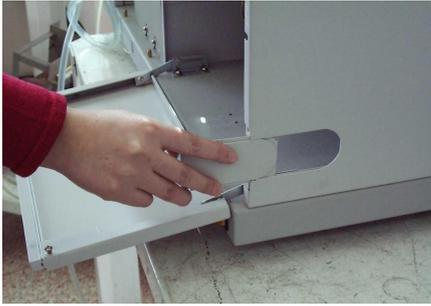

Figure 2-3
4. Take out the right little spile (Figure 2-3)